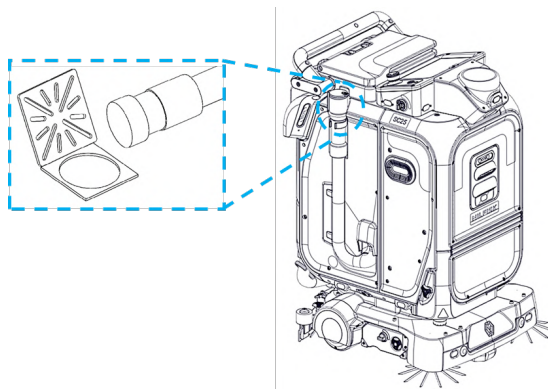

FIGURE 10-1
1. If the waste water tank has fluid, use the Manual Drain Hose (14) to drain fluid (**Fig. 10-1**).
2. Point hose towards a drain or appointed disposal location, uncap the hose (**Fig. 10-1**).